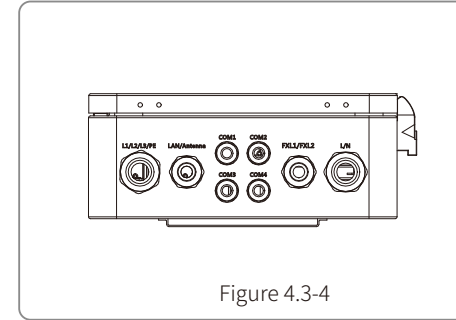

Figure 4.3-4
- The SCB3000 can be placed horizontally, as shown in Figure 4.3-4.